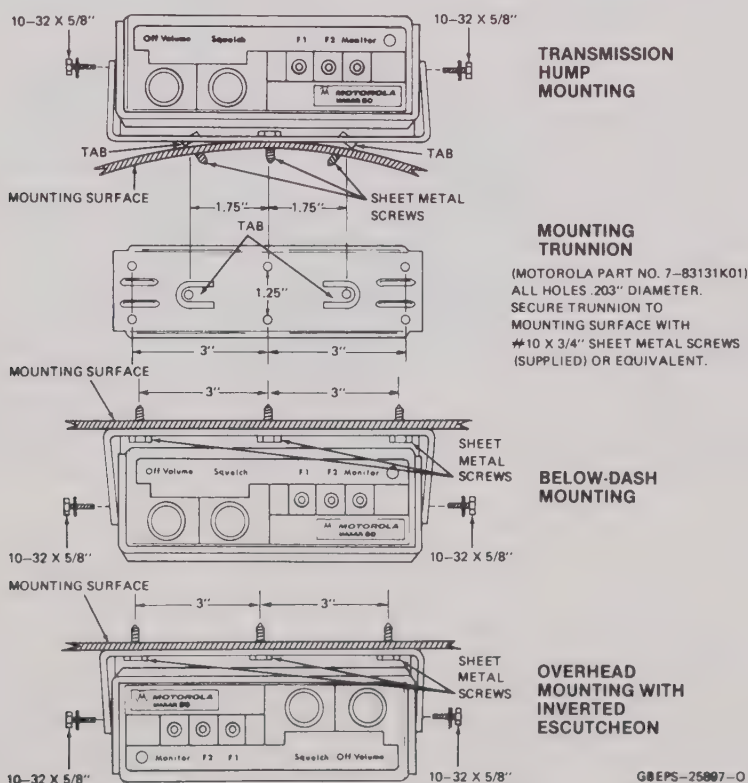

Figure 3.
Step 1. Mount the radio set trunnion mounting bracket. See Figure 3.